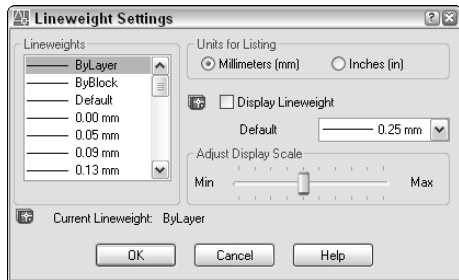

**Figure 11-9:** The Lineweight Settings dialog box lets you format how lineweights are measured and displayed.
- ♦ By default, lineweights are measured in millimeters. You can format lineweights by choosing Format ⇨ Lineweight. The Lineweight Settings dialog box opens, as shown in Figure 11-9. The Lineweights section lists available lineweights. Choose a default lineweight from the Default drop-down list. The default is 0.01 inch or 0.25 mm. The Adjust Display Scale slider determines how lineweights are displayed on the Model tab. Adjust this setting if you use several closely related lineweights but can't distinguish them on your screen. The Display Lineweight check box turns the display of lineweights on and off. (See the next bullet for an easier way to do this.)